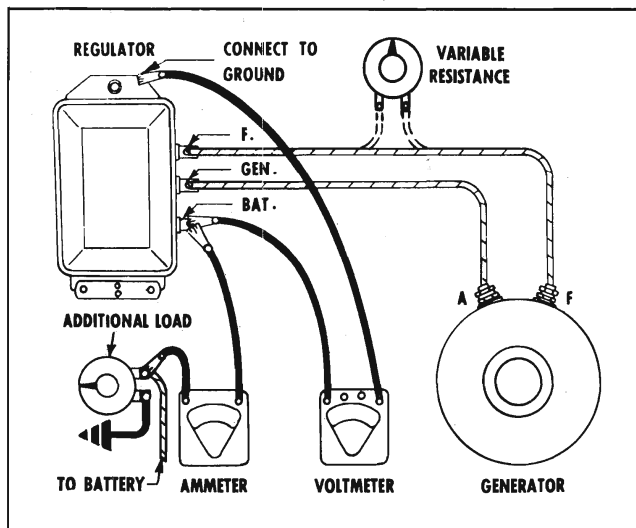

Fig. 11-29 Connections for Checking Current Regulator
1. Connect an ammeter into the charging circuit and connect voltmeter from "BAT" to ground (Fig. 11-29).